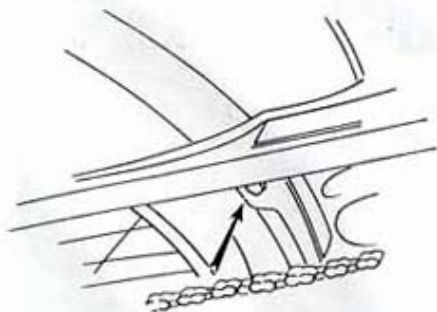

Fig. 3
- Remove rear fender lower mounting bolts (10mm wrench, fig. 3).